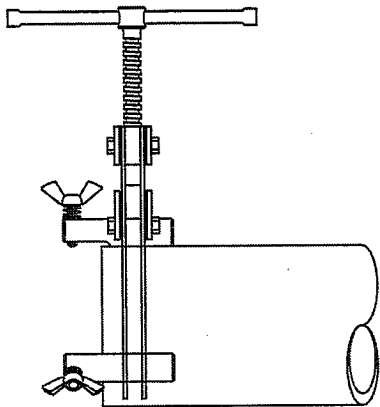

Figure 1
- 1) Tighten Tri-Clamp™ onto end of pipe (see Figure 1). Tri-Clamp™ placement will vary if fit-up is for flange or fitting.